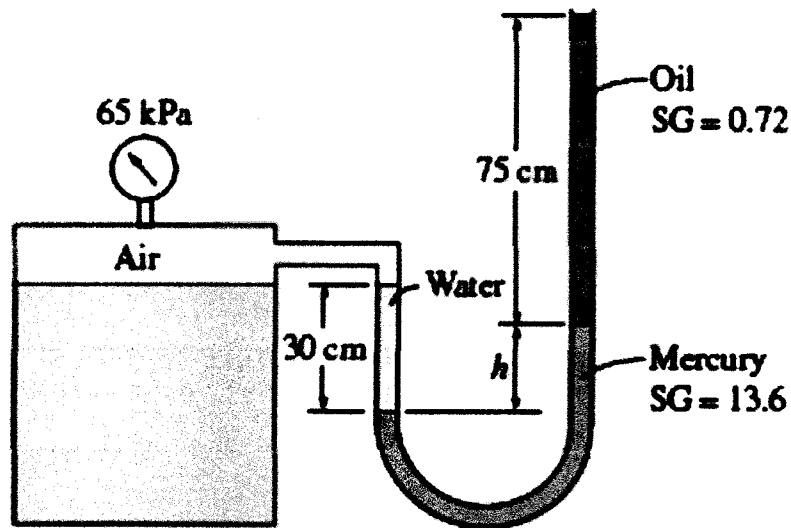

Figure Q1/Rajah S1
- (b) The gage pressure of the air in the tank shown in Figure Q1 is recorded to be 65kPa. Determine the height h .